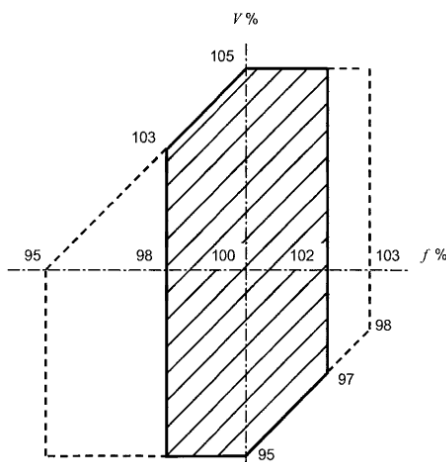

Figure 2.1: Voltage and frequency variation limits (IEC60034-3)
- As defined by the shadowed area in Figure 2.1, the generator must be able to continuously supply its rated power, operating at its rated power factor with a variation of  $\pm 5\%$  in the voltage and  $\pm 2\%$  in the frequency. As the operating point moves away from the rated values of frequency and voltage, the temperature in the generator windings may rise progressively;
- As defined by the external limit in Figure 2.1, the generator must also be able to continuously supply its rated power, operating at its rated power factor with a variation of  $\pm 5\%$  in the voltage and  $+3\%$  and  $-5\%$  in the frequency. However, in this case the temperature rise will be even higher than in the previous case. Thus, in order to minimize the reduction of the generator lifespan because of the temperature effects, the extent and frequency of the operation out of the shadowed area must be limited. The power of the generator must be reduced or another corrective action must be taken.
Ex "e" generators are designed to allow maximum variations of the rated voltage of 5% and of the frequency of  $\pm 2\%$ , according to Figure 2.1.